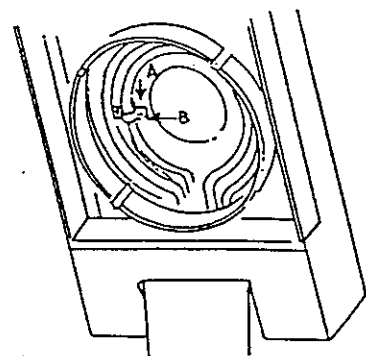

Fig. 11
6. Unscrew the four screws (105) (M3 x 6).
7. Remove the heat radiation plate (11).
8. Remove the the four screws (111) (M2 x 4) together with the four spring washers (204) (ø2).
9. Remove the reflector (6).
10. Loosen the screw (112) (M3 x 10).
- a) Remove the temperature sensor connector assembly (12) using needle-nosed pliers.
- b) If the screw (112) does not come out, you may cut it.
14. Attach the new temperature sensor to the upper part of the heater unit (20) (See Fig. 11).